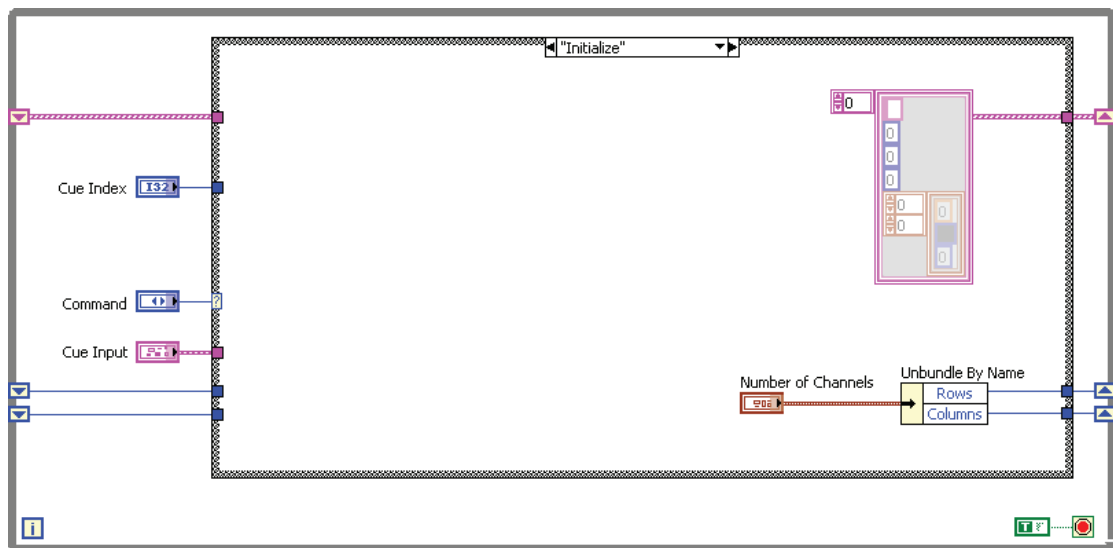

Figure 4-11. Initialize Case
5. Complete the Initialize case, as shown in Figure 4-11. This case executes when the Theatre Light Control software starts.